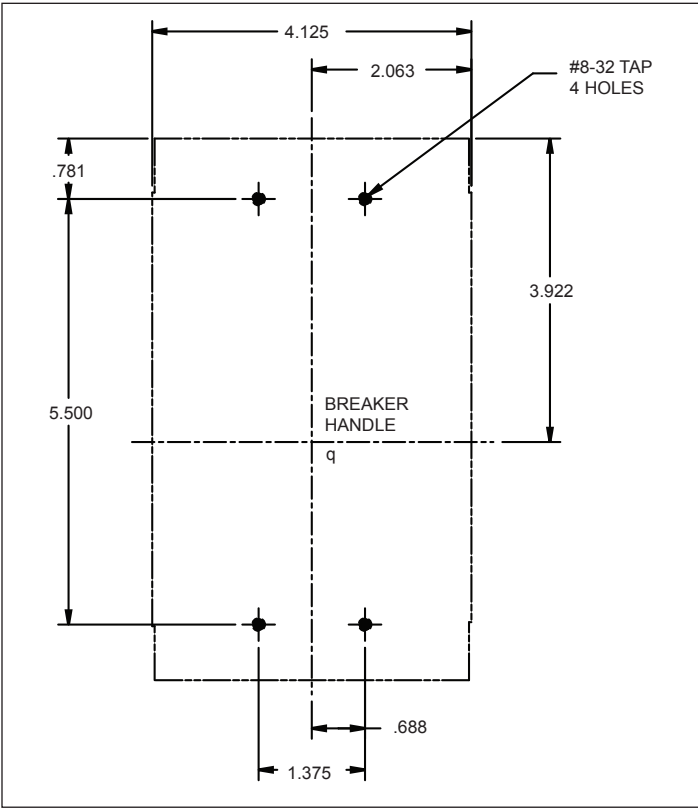
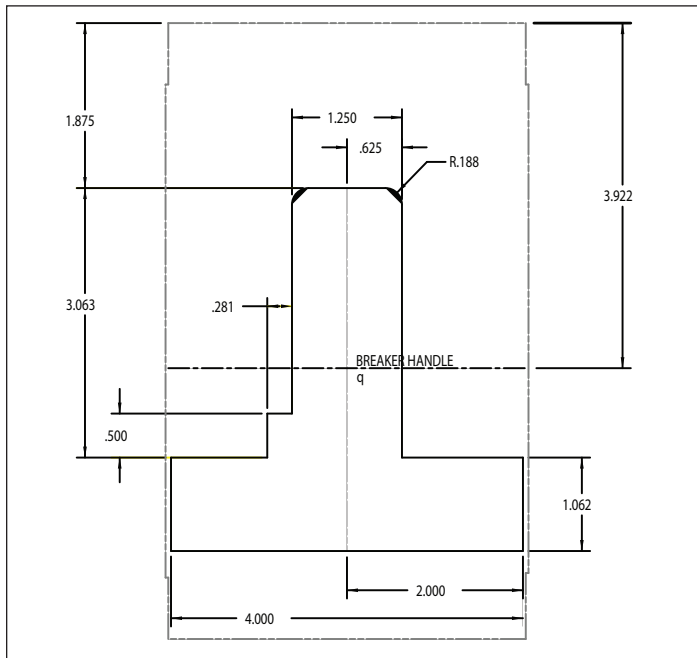

Figure 9. Circuit Breaker Mounting Bolt Drilling Plans.
Figure 10. Circuit Breaker Escutcheon Dimensions.
a. For individual surface mounting, drill mounting panel using the drilling plan shown in (Fig. 9). For panel board mounting, only load end support mounting holes are required. For dead front cover applications, cut out cover to correct escutcheon dimensions (Fig. 10).